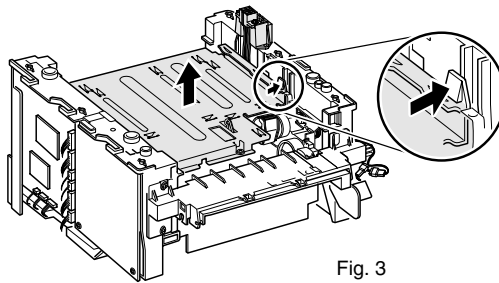

Fig. 3
6. While pushing the latch to release, lift up on the shield and unplug all connectors (Fig 3).